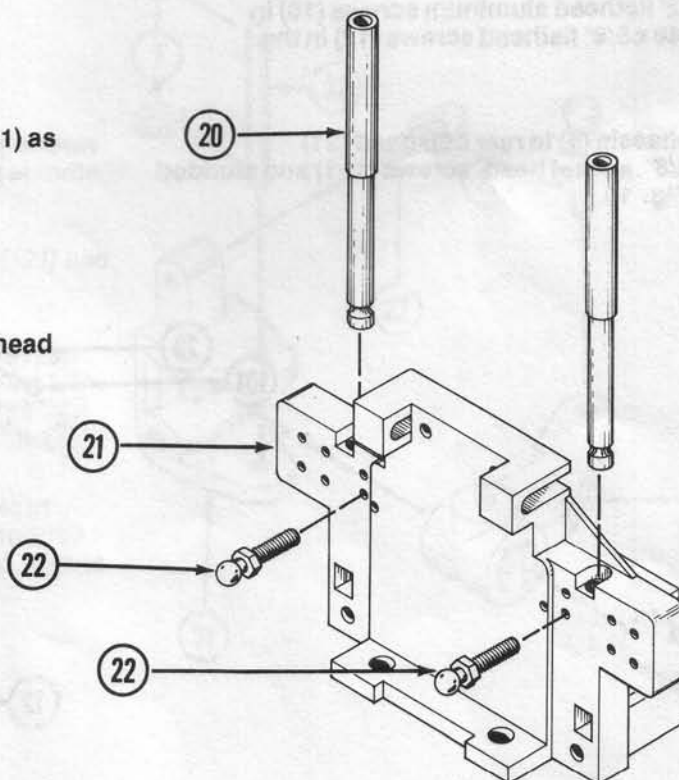

FIG. 8
12. Insert wing tubes (20) into rear bulkhead (21) as shown. Fig. 8.
13. Install 3/8" studded balls (22) into rear bulkhead (21) as shown. Fig. 8.